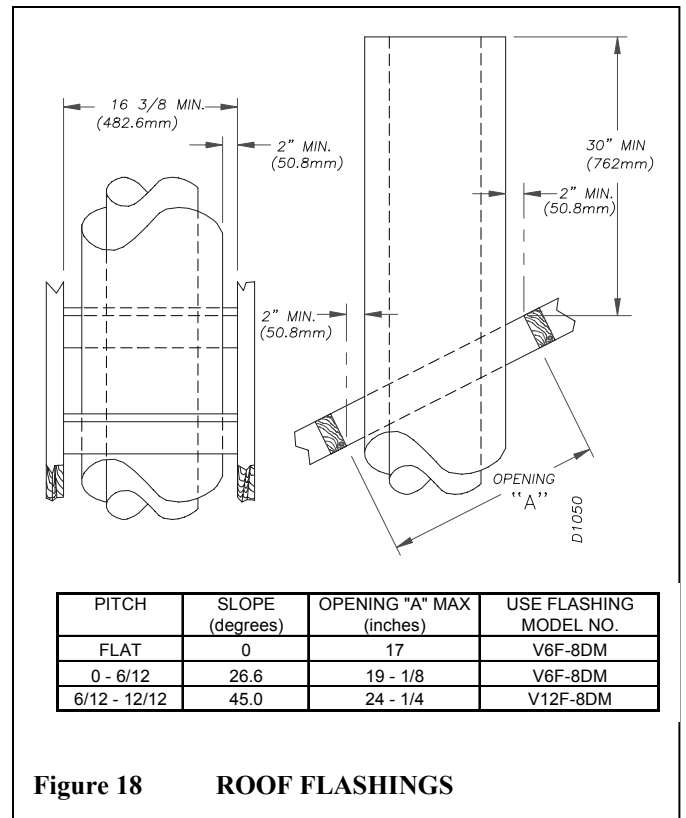

Figure 18 ROOF FLASHINGS
STEP 3: Use the roof-opening chart (see figure 18) to determine the correct opening length and flashing required.